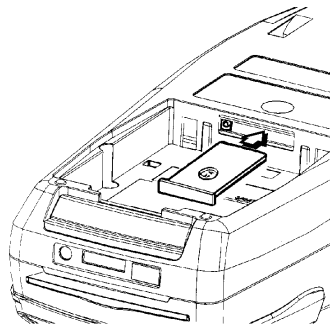

Figure 20 SIM Cardholder Insertion
7. Insert the SIM cardholder fully into the TEL SIM slot, as displayed in Figure 20